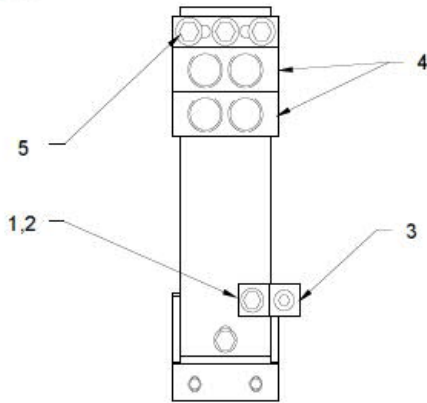

Fig. 1
2. Remove and retain the 3/8-16 x 1.00 hex head bolt and 3/8 conical washer and Ground lug (items 1,2,3) as shown in Fig. 1 below.
3. Remove and retain 3/8-16 X 2.00 hex head bolts (item 5) as shown in Fig. 1
4. Remove and discard existing lug (item 4) as shown in Fig. 1.